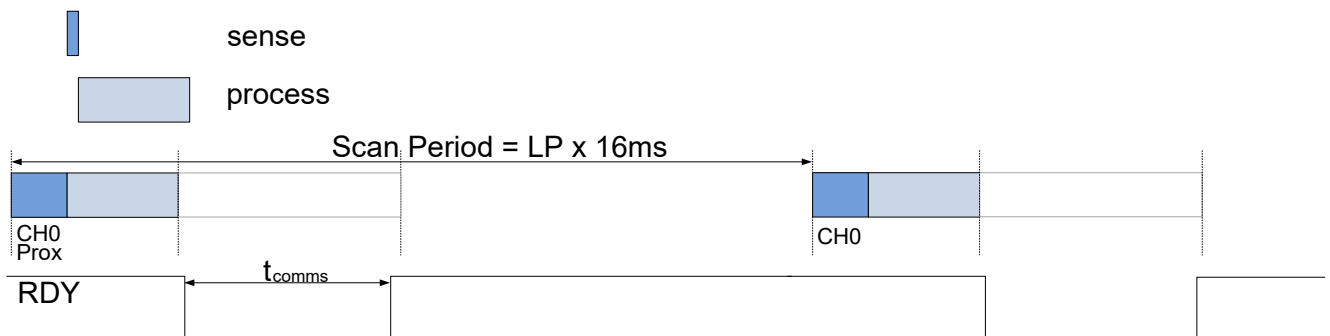

Figure 5.2 IQS360 Charge Cycle Timing in Low Power Mode.
NOTE: While in any power mode the device will zoom to Boost Power (BP) mode whenever the condition $(CS - LTA)^1 > PROX_TH$ or $TOUCH_TH$ holds, indicating a possible proximity or touch event. This improves the response time. The device will remain in BP for t_{ZOOM} (4 seconds) after the last proximity event on CH0 is cleared and then return to the selected power mode. The Zoom function allows reliable detection of events with current samples being produced at the BP rate. The LP charge cycle timing is illustrated in **Figure 5.2**. The bit3 in Register 0x10, byte 0, will indicate if low power is active, or the device is zoomed in.
Adjusting the charge transfer speed will change the charge cycle duration (t_{CHARGE}) as shown in **Figure 5.2**.